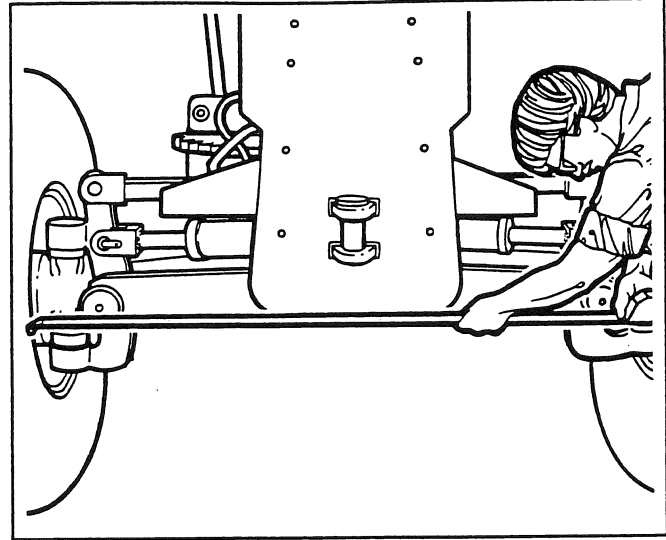

Fig. 18
8. Again measure the distance between the tires at the marks (see Fig. 18). The front measurement should be one half to five eighths of an inch (1,3 cm to 1,6 cm) less than the rear measurement.